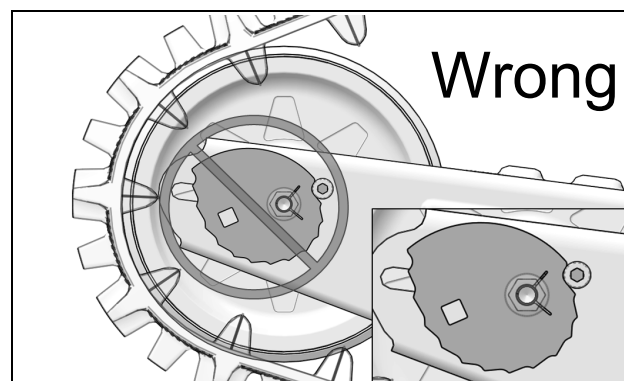

Figure 29
- Installation direction of Tensioner cams. Figure 29 and Figure 29.